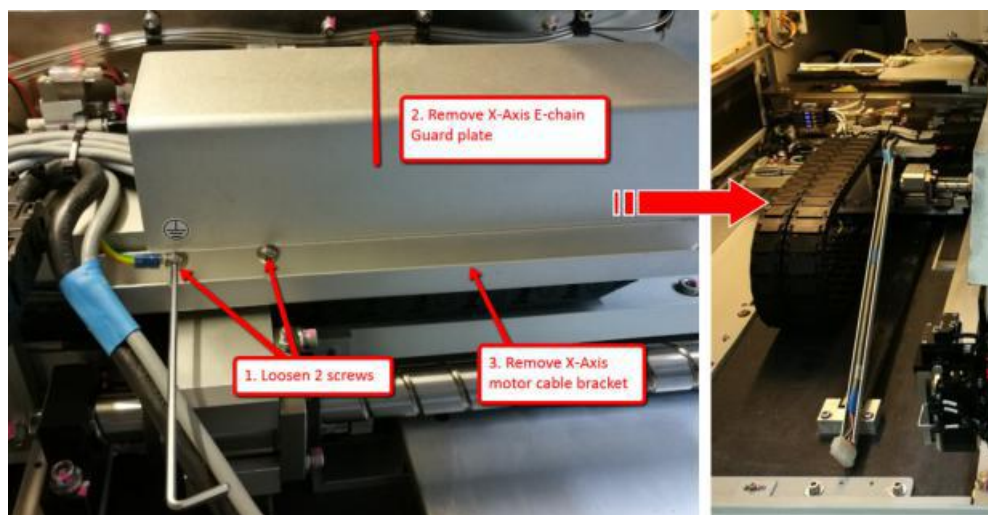

Figure 10
12. Loosen 2 screws and remove X-Axis E-chain Guard plate and X-Axis motor cable bracket as shown in Figure 10.